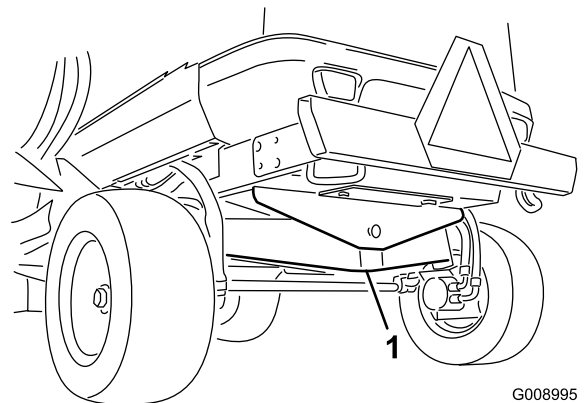

Figure 39
1. Front jacking point (2)
- On the rear of the machine at the center of the axle (Figure 39).